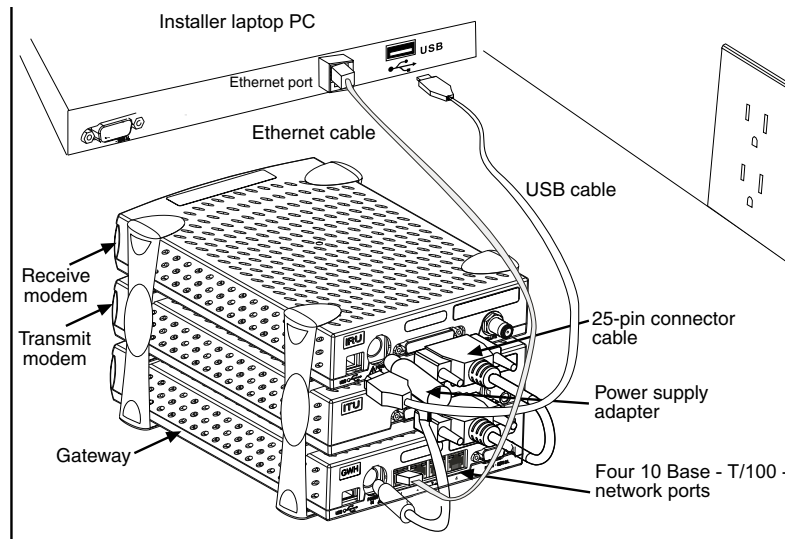

Figure 11: Attach interconnection cables
5. Connect the component interconnection cables. See Figure 11. A USB cable connects the receive modem and the installer PC; you may use a longer cable rather than the one that is supplied if you wish. An Ethernet cable connects the Gateway and the installer PC. A 25-pin connector cable connects the transmit and receive modems. A power supply adapter cable provides power to the Gateway and receive modem. See Figure 11.